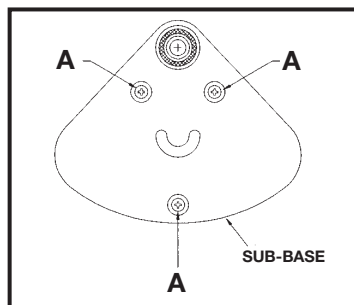

Fig. 8
3. Use a phillips screwdriver to remove the three sub-base mounting screws (A) Fig. 8, from the base, and remove the sub-base.